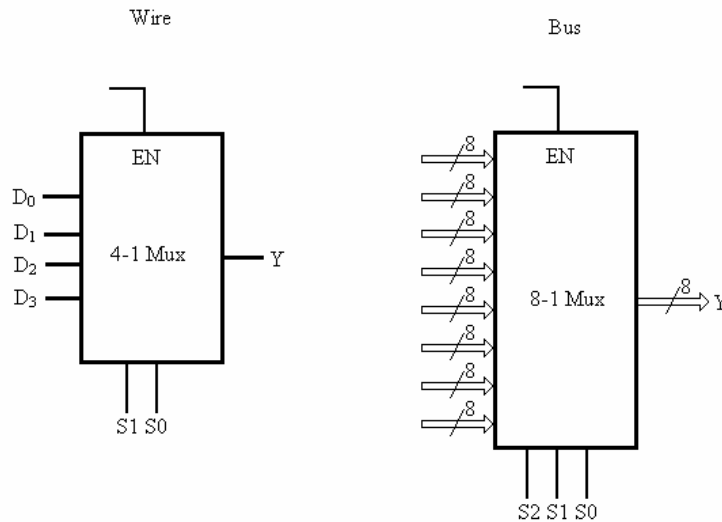

Figure 5: Multiplexer problem.
- c) Shown in fig 5(a) is the block diagram of a 4-1 “bit stream/wire” multiplexer.
A more useful circuit, the “bus” multiplexer is employed in microprocessors, usually in manipulating the data path. A block diagram for this multiplexer is shown in fig 5(b). In this question, you will build a 8-1 bus-multiplexer (for a bus size of 8 bits) using the wire-multiplexer as your building block. You may use additional external gates as necessary.